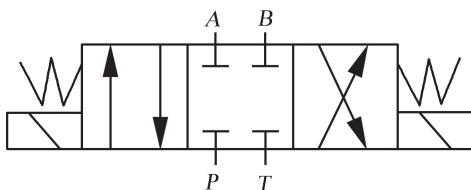

Fig.5-16 Symbol of Directional-change Valve
**Directional-change valves** are usually spool valves. It has many types, such as two-position two-way, or three-position four-way magnetic directional-change valve. A typical symbol of directional-change valve is shown in Fig.5-16.